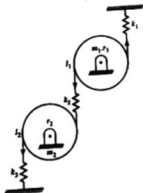

Fig. 2 (Q. 5 a)
- Q5) a)** Find the natural frequencies of the system shown in Fig. 2. [12]